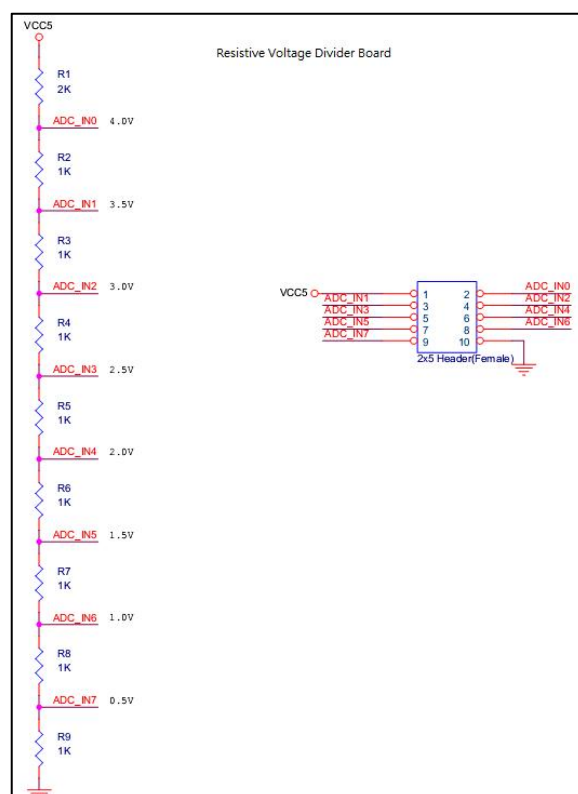

Figure 4-9 The additional voltage divider board is set up for the ADC_RTL demonstration
1. First, prepare an additional voltage divider board, as shown in **Figure 4-9**. Then, plug it into the J4 header on the DE23-Lite.